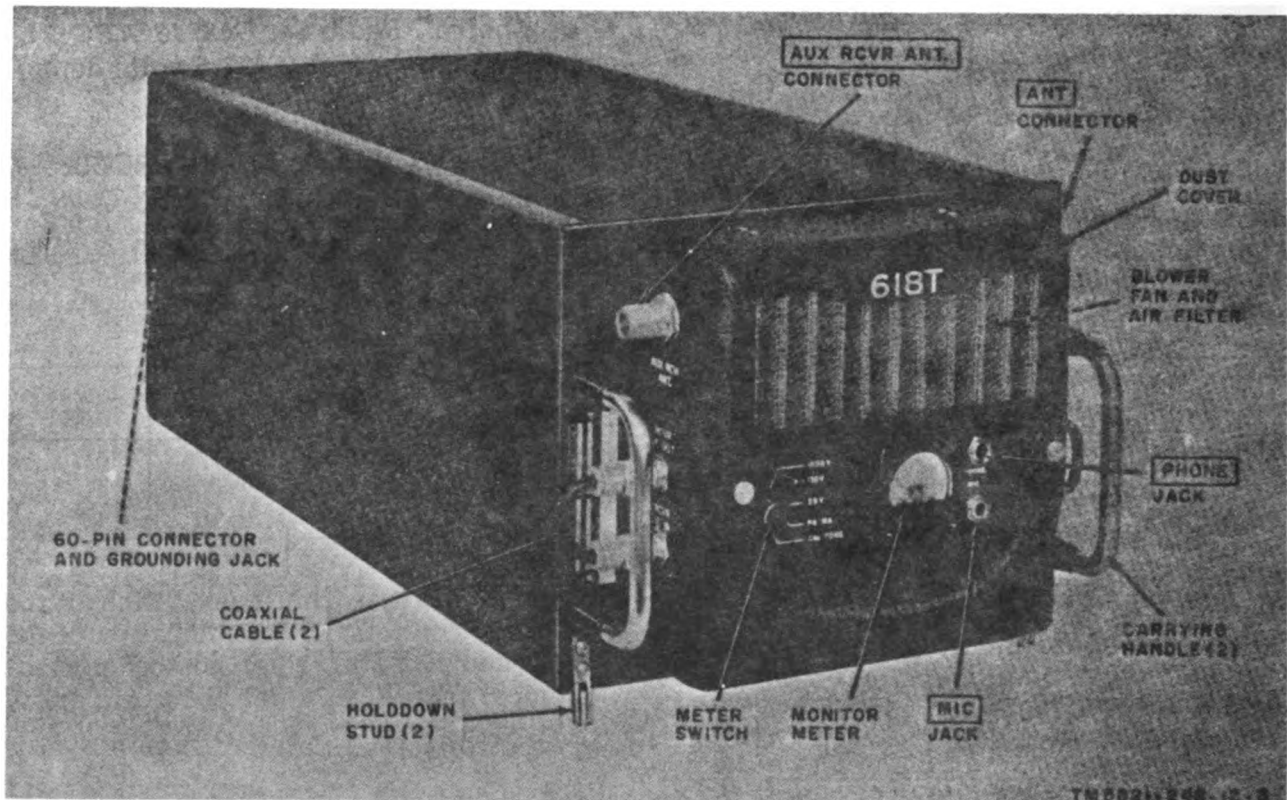

Figure 2. Receiver-transmitter.
b. The components of the radio set are secured to mounting surfaces within the aircraft. From the mounting and panel connectors, connections are made to the aircraft power source and the components of the radio set. The coaxial cable connection to the antenna is made either direct from the front panel of the receiver-transmitter (fig. 2) or through an antenna coupling unit (not part of the radio set; paragraph 12f). The control unit is normally located in the radio control panel
9. Description of Receiver-Transmitter (fig. 2)